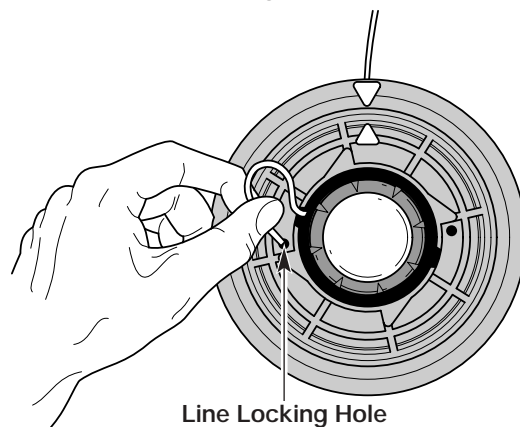

Fig. 18
5. Insert the line into the locking hole (Fig. 18). Do not push the line more than 1/2 inch (12.7 mm) into the line locking hole. When inserted correctly the line will form a small loop (Fig. 18).